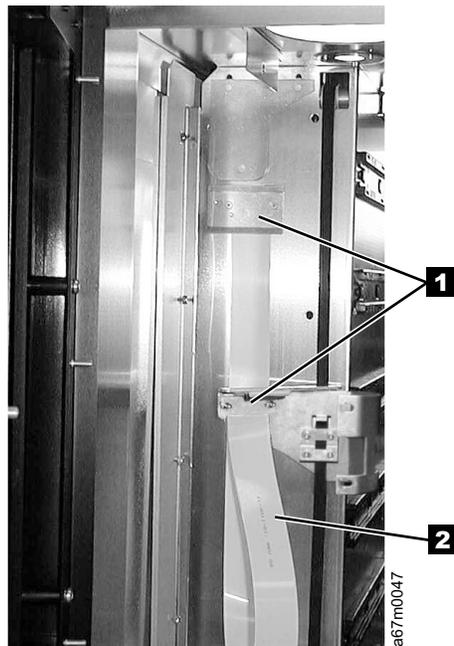

Figure 7-18. Y-Axis Flex Cable Removal and Replacement
15. See Figure 7-15. Loosen three Ny-lock nuts **2** (11/32 Nut driver) then loosen the tensioning screw **1** (T20 Torx driver) to release the belt tension. Do not remove the tensioning screw or Ny-lock nuts. **You may have to loosen the two Phillips screws holding the Flex Cable clamp plate **1** shown in Figure 7-18 on page 7-22 to loosen the belt tension.**
19. Adjust the tension screw **1** clockwise (T20 Torx driver) to increase belt tension. Belt tension is properly adjusted when Picker Assembly takes approximately two seconds to drift from top of chassis to bottom of chassis. Check Picker Assembly for full travel. Picker Assembly casting should touch top of chassis and bottom of chassis at upper and lower extremes of travel. Tighten the three Ny-lock nuts **2** when tension is properly adjusted. **If you loosened the two Phillips screws holding the Flex Cable clamp plate **1**, see Figure 7-18 on page 7-22 tighten them now.** If you were sent here from another procedure to do this step return to that procedure now.
See Figure 7-18 for locations of components in the following procedure.
2. Remove the two Cable Clamp Plates **1**, see Figure 7-18.